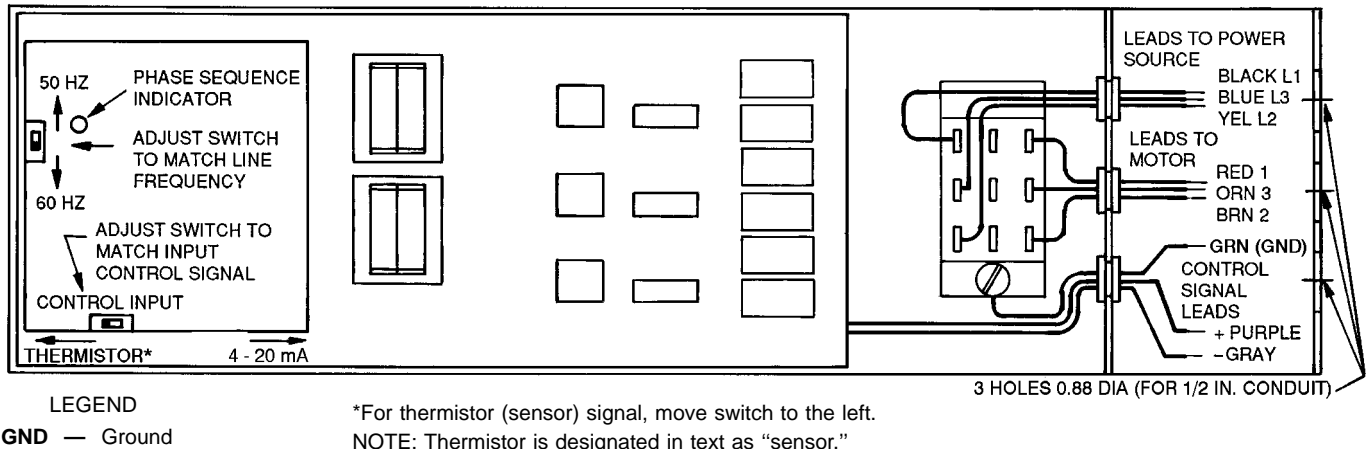

Fig. 4 — Motormaster® III Control Signal Selection Switch
Step 3 — Set the Control Signal Selection Switch (Fig. 4)